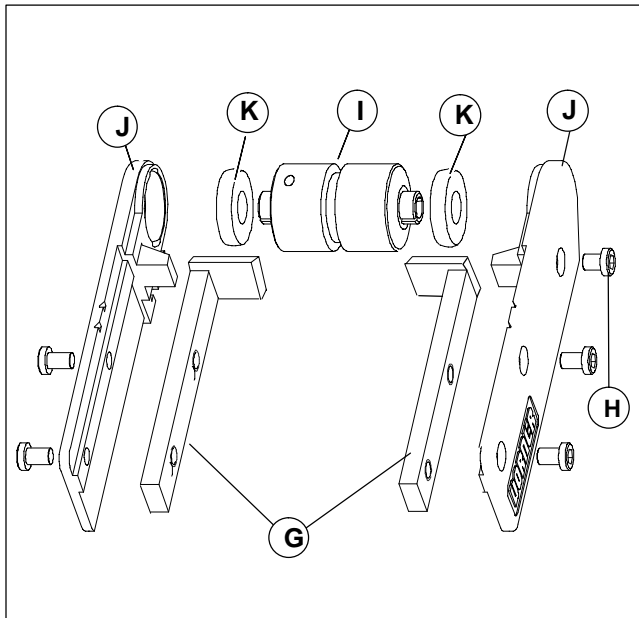

Figure 6
1. Typical components (Figure 6)
3. Insert slide bars (G of Figure 6) into 2100 frame.